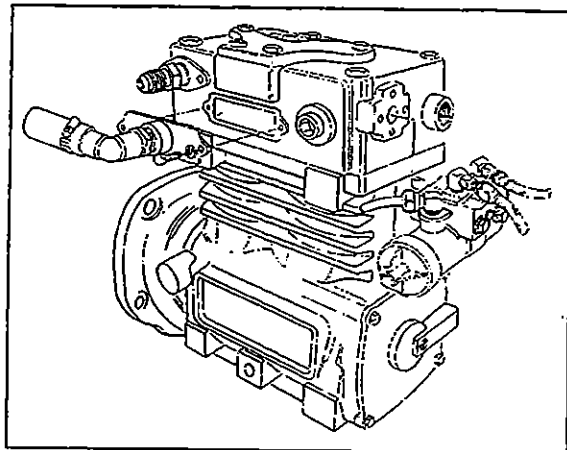

Figure 8: Air Compressor and Governor
3. Identify and disconnect all air, coolant and oil lines from the compressor and governor assembly (refer to fig. 8).
The governor is mounted on the air compressor (see fig. 8), its function is to maintain the system pressure between a minimum and a maximum value. Maintenance and repair information on D-2 governor is supplied in the applicable booklet annexed to this section under reference number SD-01-16.